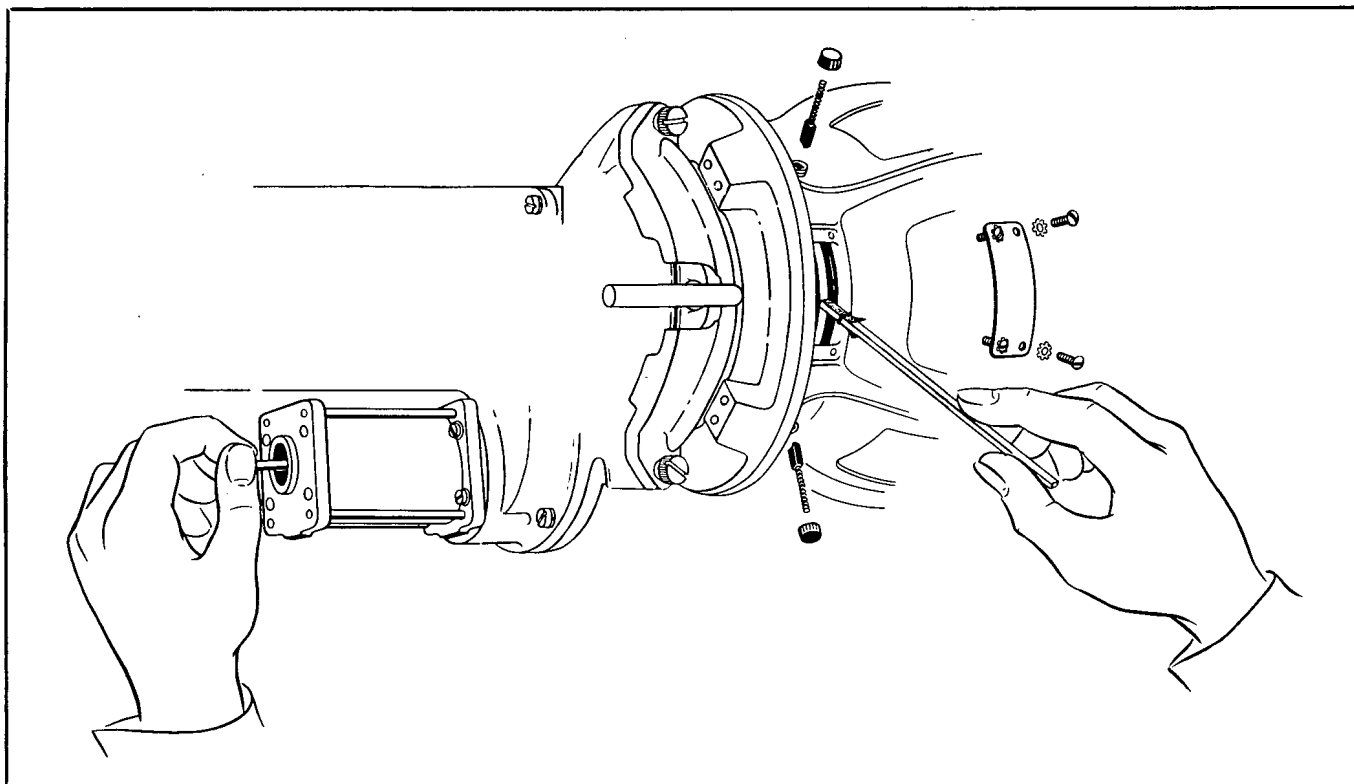

Figure 6-7. Brushes and Slip Rings on PPI Assembly
f. Particular attention should be paid to the neck of the PPI tube where it passes through the yoke coil. Deposits may form under the coil that makes it hard to turn or else causes it to turn with a jerky movement. This can often be detected by manually turning the shaft of the drive motor. If trouble is detected, the PPI tube should be removed and the deposit cleaned away. This procedure is primarily a corrective maintenance procedure because of the extreme delicacy required to remove the PPI tube. Refer to the procedure given in Section 7. The slip rings on the PPI yoke coil should be cleaned every three months. The brushes should also be removed and inspected for excessive wear, and to see that they make good contact with the slip rings. To clean the slip rings, remove the four screws that hold the access cover in place as shown in Fig. 6-7. Remove the brushes at the same time. If the old brushes are replaced, they should be replaced in the same holders from which they were removed and they should not be turned around in the holder. When the access cover is removed, the slip rings may
be easily reached for cleaning. Use a flat piece of wood slightly wider than the slip ring, with a piece of crocus cloth wrapped lengthwise over one end. If a suitable piece of wood is not available, wrap the crocus cloths strip back over the forefinger. Insert the piece of wood or the forefinger into the opening and gently press it against one of the slip rings. See Fig. 6-7. Rotate the shaft of the drive motor with the left hand until the slip ring is clean. Repeat the operation for the other slip ring. After the rings have been cleaned, wipe the rings and yoke coil assembly with a dry clean cloth that is free of lint. Be careful not to allow any dust to get into the yoke coil bearings or it will be necessary to disassemble them for cleaning also. After cleaning, replace the access cover.